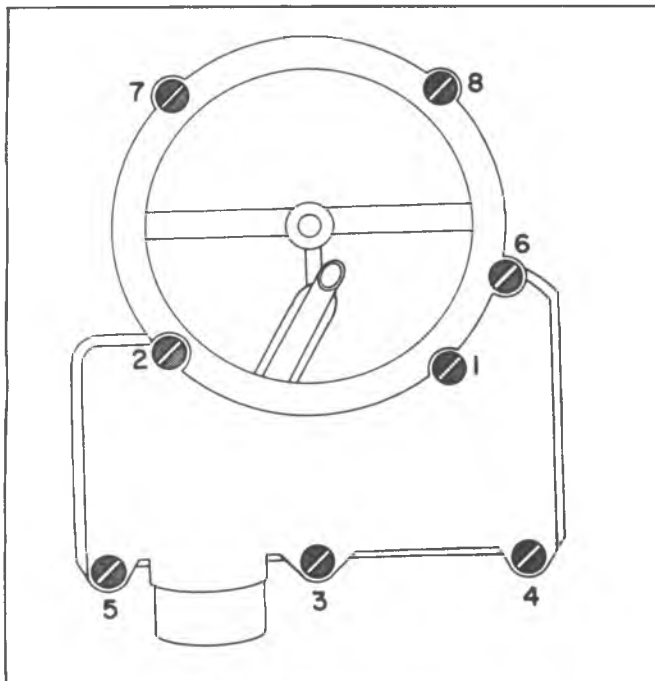

Fig. 6C1-27--Tightening Sequence
3. Install the choke vacuum break diaphragm assembly using two short air horn screws opposite the choke housing, connecting the choke vacuum break diaphragm link to slotted diaphragm plunger stem. The two attaching screws for the choke vacuum break assembly have tapered heads for locating choke diaphragm bracket. Make sure to use these in this location. Tighten all air horn screws evenly and securely using proper tightening sequence (Fig. 6C1-27).